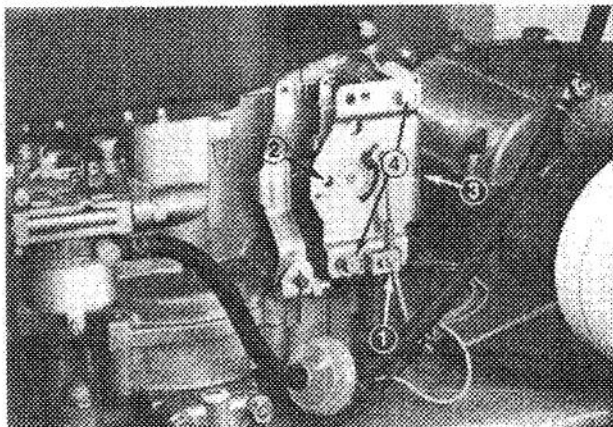

Figure 19
2. Loosen the throttle cable clamp screw (Fig. 19) and move the control cable casing and wire until the hole in speed control is aligned with hole in control plate. Tighten cable clamp.
6. Loosen (2) control panel mounting screws (Fig. 19).